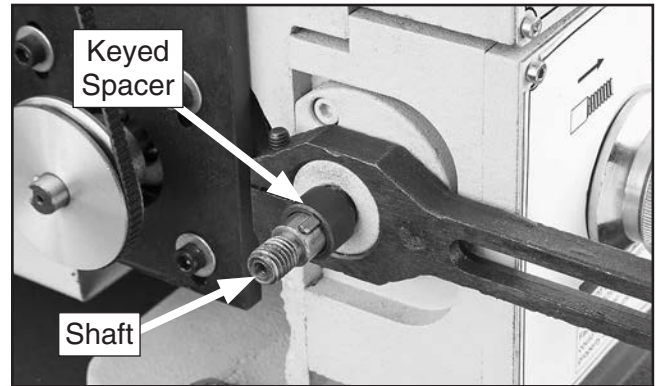

Figure 77. Location of keyed spacer.
- Remove keyed spacer from lower gear shaft (see **Figure 77**).